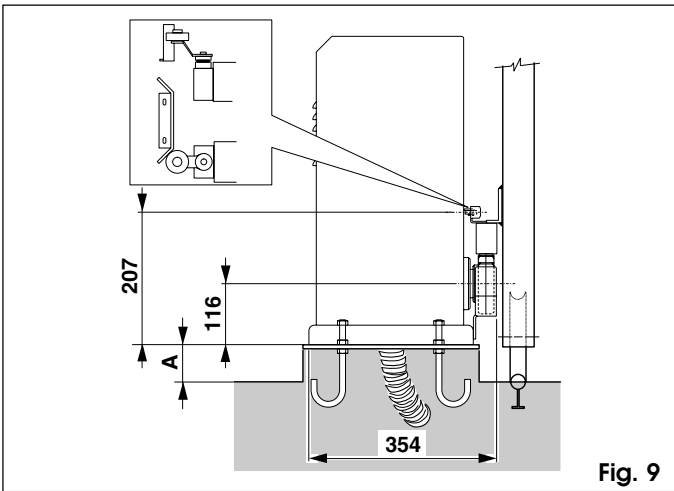

Fig. 9
N.B.: It is advisable to install the plate slightly raised from the ground. See A, fig. 9.